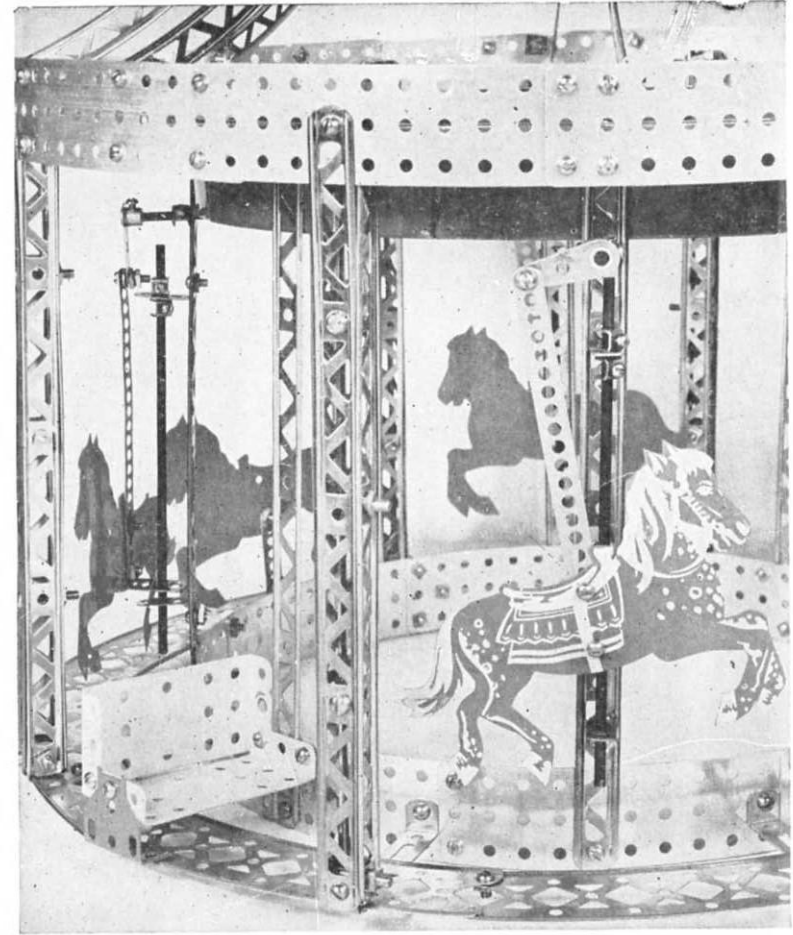

FIGURE 6
### ASSEMBLY OF HORSES —FIGURE 6 AT RIGHT
The two stationary horses are fastened to the outer bottom ring with a (G) 7 hole strip and a (CH) right angle (Figure 1). The horses that move up and down do so by using an (AA) eccentric crank (Figure 6) which is fastened to the revolving  $7\frac{1}{2}$ " axles. An (O) pawl is fastened to the horse which moves
The seats are constructed with two (MC) 1" x  $2\frac{1}{2}$ " base plates which are fastened to the outer bottom ring with a P79 car truck. The seat is also fastened to the inner bottom ring. See Figure 6.